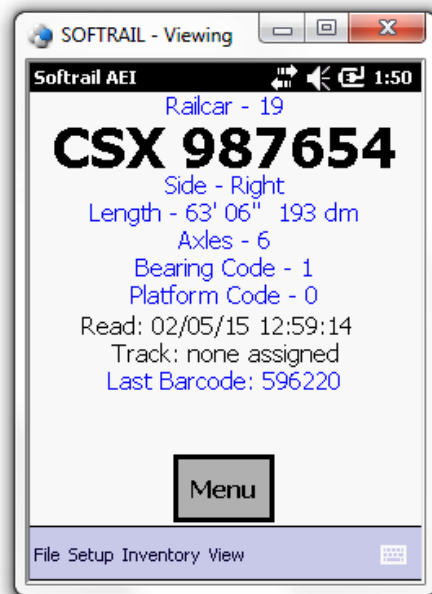

Figure 9 - AEI Tag Display
- Displays AEI tag data in user-friendly format (see Figure 9).
There are three buttons that will start the RF reading of an AEI tag. These are at the top on the left hand side of the computer, at the top of the right hand side and the large red button just below the screen (see Figure 6). When any of these buttons is pressed and held, the computer will turn on the AEI tag RF reader and attempt to read a tag. A “Reading Tag” message will appear on the screen. It will continue attempting to read a tag until a tag is read or the button is released. If a tag is read the information in the tag will be displayed (see Figure 9). If not a “No Tag Read” message will appear.